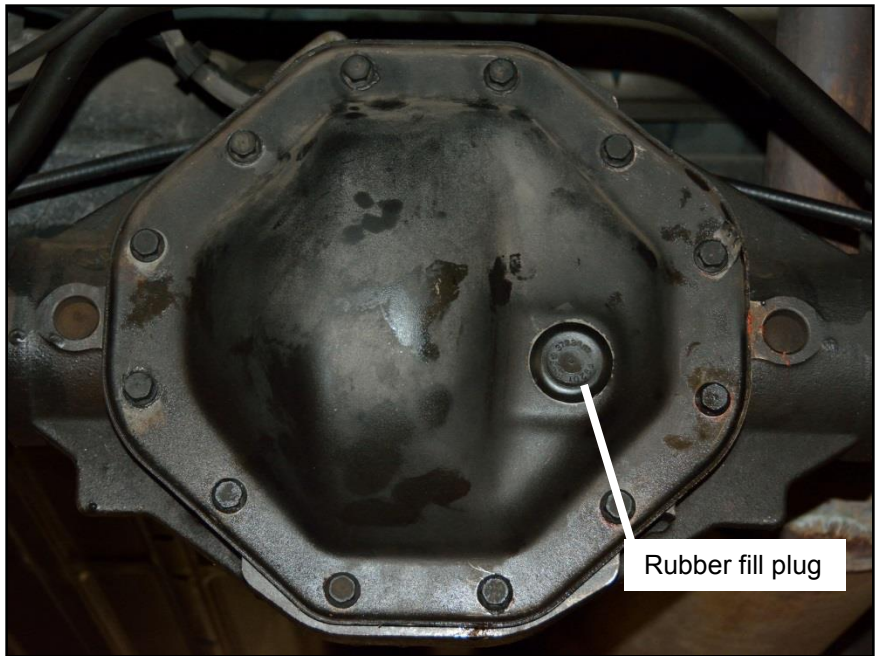

Figure 1
STEP 3. The stock fill plug is made out of rubber and it just pops out with a screwdriver (**See Figure 1**).